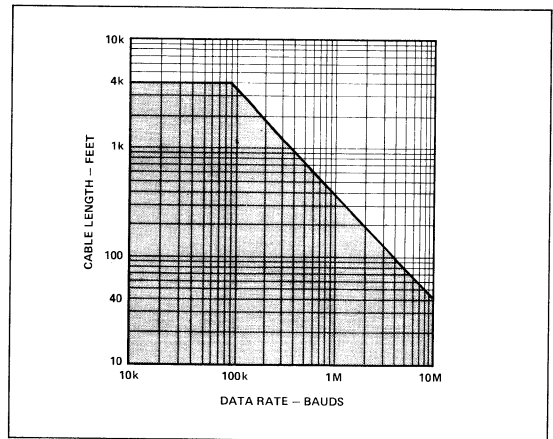

Figure 9. Data Rate Versus Cable Length for Balanced, Twisted Pair Cable (From EIA RS-422).
ard RS-422 conducted their tests with 24 gauge twisted pair wire. The resulting length vs. data rate, is published as a guideline in RS-422 (Figure 9). This shows two important results: (1) Unmodulated baseband (NRZ) signalling is not recommended at distances greater than 4000 feet; (2) At data